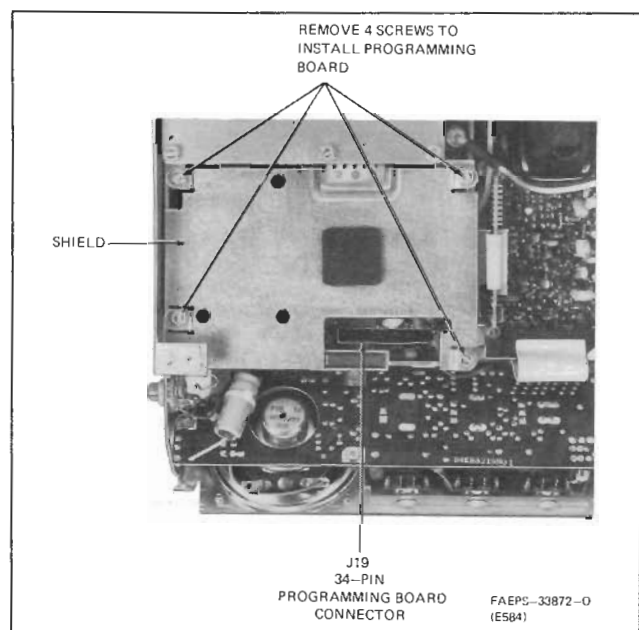

Figure 2. Programming Shield Location
Step 3. Refer to Figure 2. On the bottom of the radio, locate the programming shield and remove the four mounting screws holding the shield in place. Do not remove the shield.
Step 3. Refer to Figure 2. On the bottom of the radio, locate the programming shield.